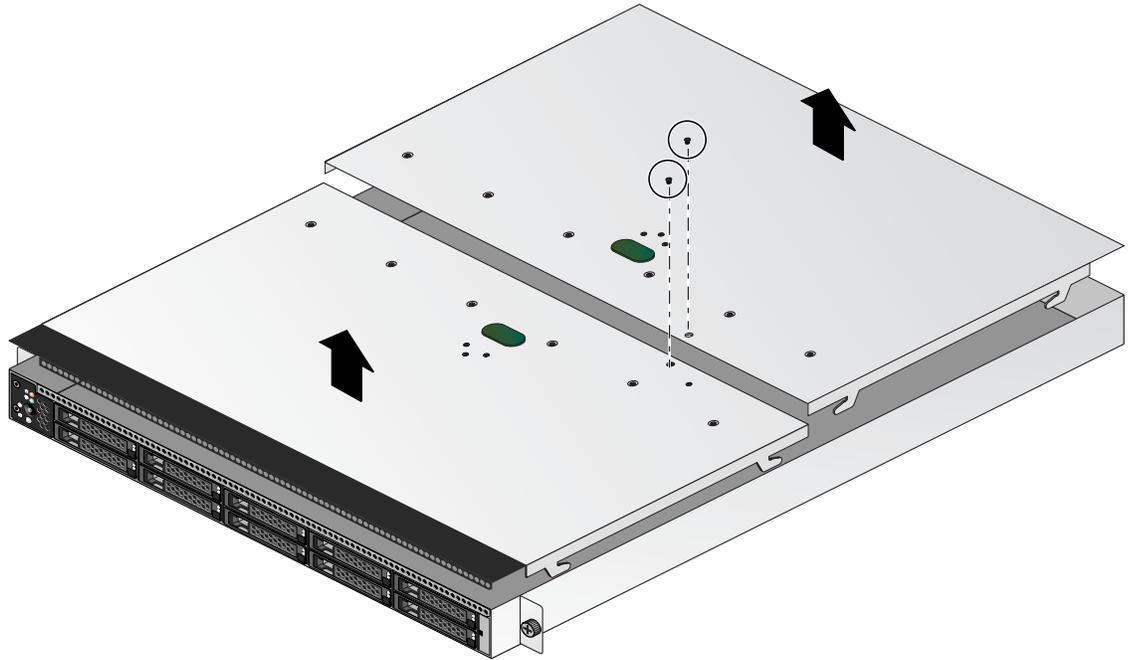

Figure 2-6 Server Top Covers Removal Example
2. Place your thumbs in the top-cover recess “button” and push the rear section of the top cover away from you (toward the rear of the chassis) and lift it upward, see Figure 2-6 on page 19.